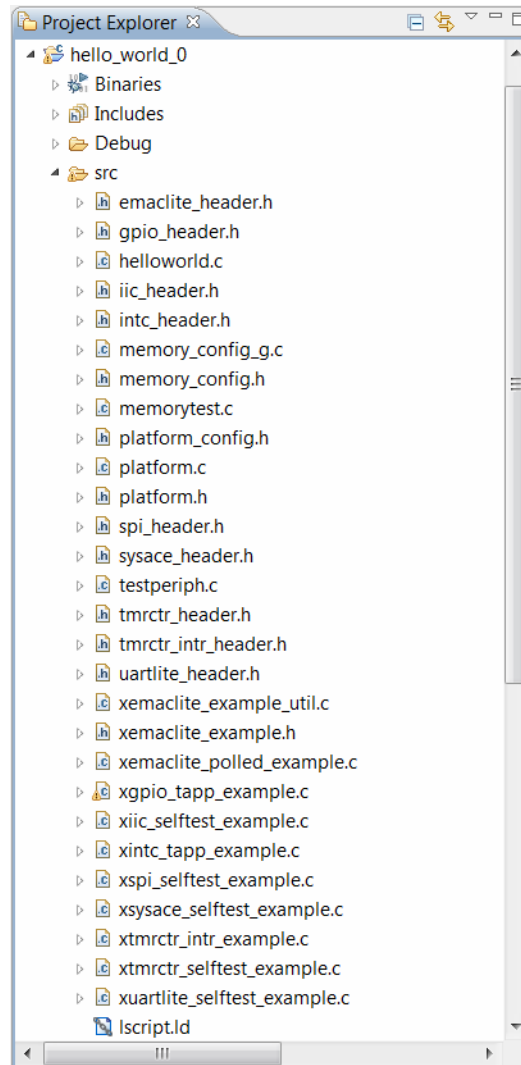

Figure 5-4: Source Files in hello\_world\_0
7. Drag and drop source files from `memory_tests_0` and `peripheral_tests_0` into the `src` subfolder of the `hello_world_0` folder. Figure 5-4 shows the source files that the directory should contain.